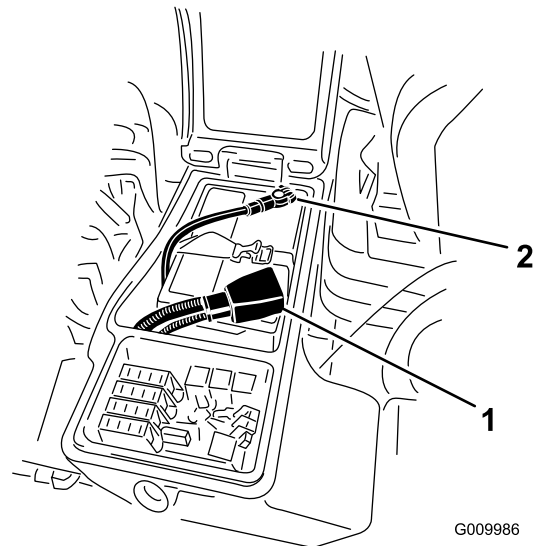

Figure 40
4. Install the positive cable (red) to the positive (+) terminal and the negative cable (black) to the negative (-) terminal of the battery (Figure 40). Secure cables to posts with capscrews and nuts. Make sure that the positive (+) terminal is all of the way onto the post and the cable is positioned snug to the battery. The cable must not contact the battery cover. Slide the rubber boot over the positive terminal to prevent a possible short from occurring.